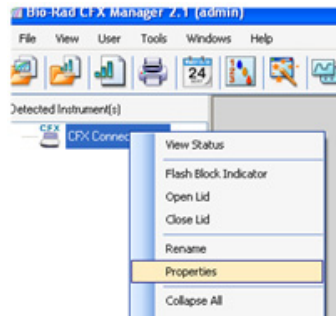

Fig. 1. Navigating in the detected instrument pane window.
1. In the **Detected Instruments** pane window, right-click on your CFX Connect instrument and select **Properties** (Figure 1).